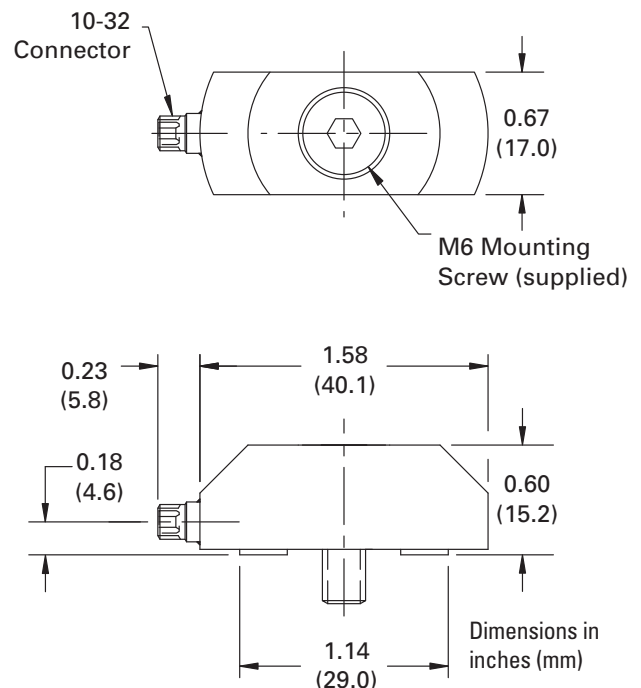

Figure 46. Strain Sensor Installation
**Figure 46** displays the sensor mounted using the supplied mounting screw to a minimum torque of 10 N-m. Allow for the static component of the signal to discharge prior to calibration. Installations not preloaded to the recommended value, or that utilizes a screw of different material and/or dimensions than the supplied screw, may yield inaccurate output readings. The supplied screw allows proper strain transmission to the sensor while holding the sensor in place. Properly machined holes for the mounting screw will ensure proper vertical orientation of the sensor. Refer to the installation drawing for additional mounting details. Consult a PCB® applications engineer for calibration and output recommendations.